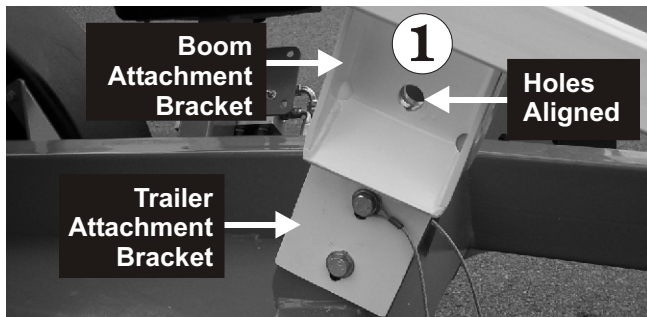

Figure 10.2 - Locking the Booms
2. Align the boom travel lock with the boom rest **1** mounted to the drawbar (see Figure 10.2).